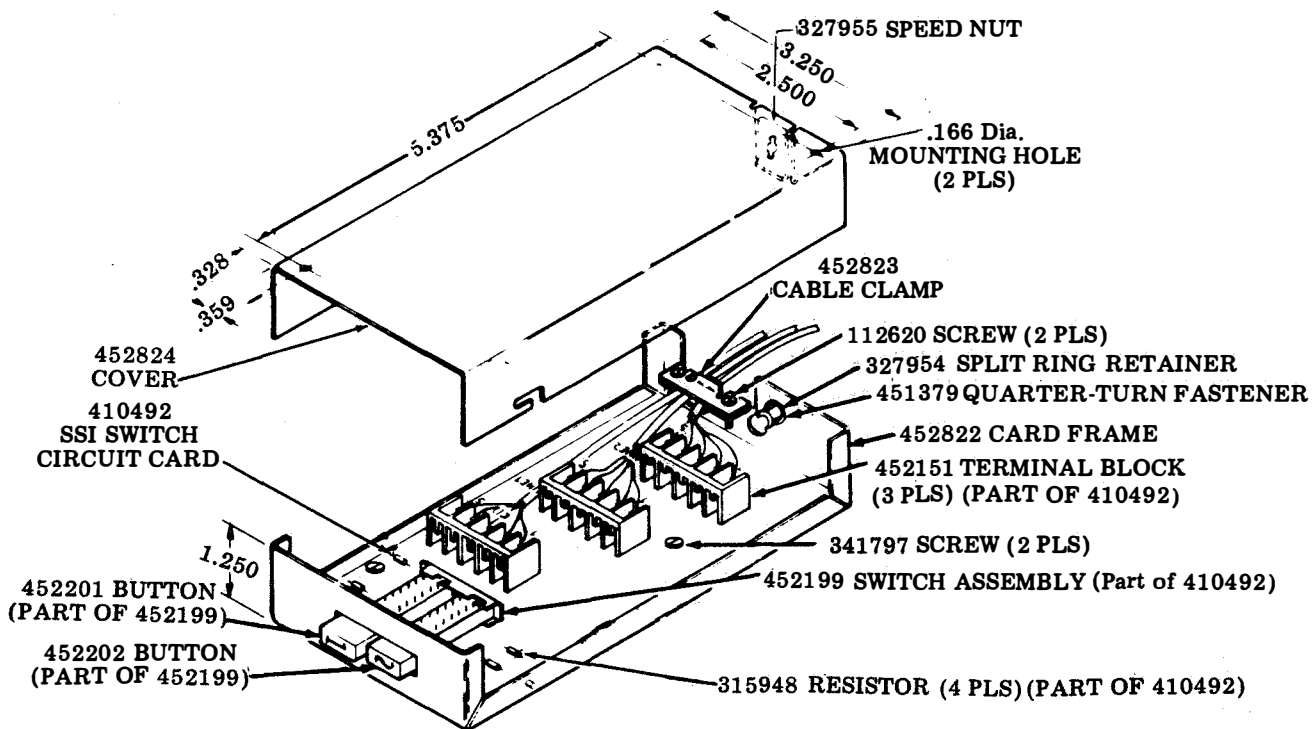

Fig. 2 - SSI SWITCH ASSEMBLY
1.03 The 452190 SSI Switch Assembly is housed in a self-supporting enclosure which can be readily mounted to the 45CAB501/AAA or 45CAB502/AAA Keyboard-Display Table or easily adapted to other mounting arrangements suitable to the customer. See Figs. 2 and 4.
2.01 Following is a parts list of the SSI Switch Assembly - 452190. For identification of parts on the 410492 SSI Switch Circuit Card, see Fig. 2.
3.01 PHYSICAL DIMENSIONS - Approximately 7" long, 3.25" wide and 1.25" high. See Fig. 2.